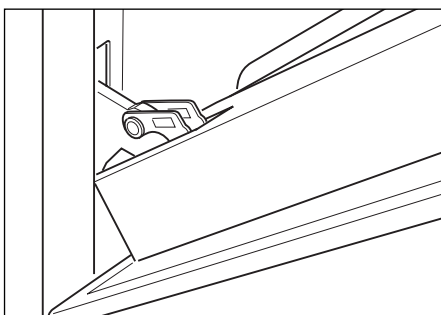

Fig.25d
- Gently close the door until left and right hinge levers "A" are hooked to part "B" of the door (fig. 25d)